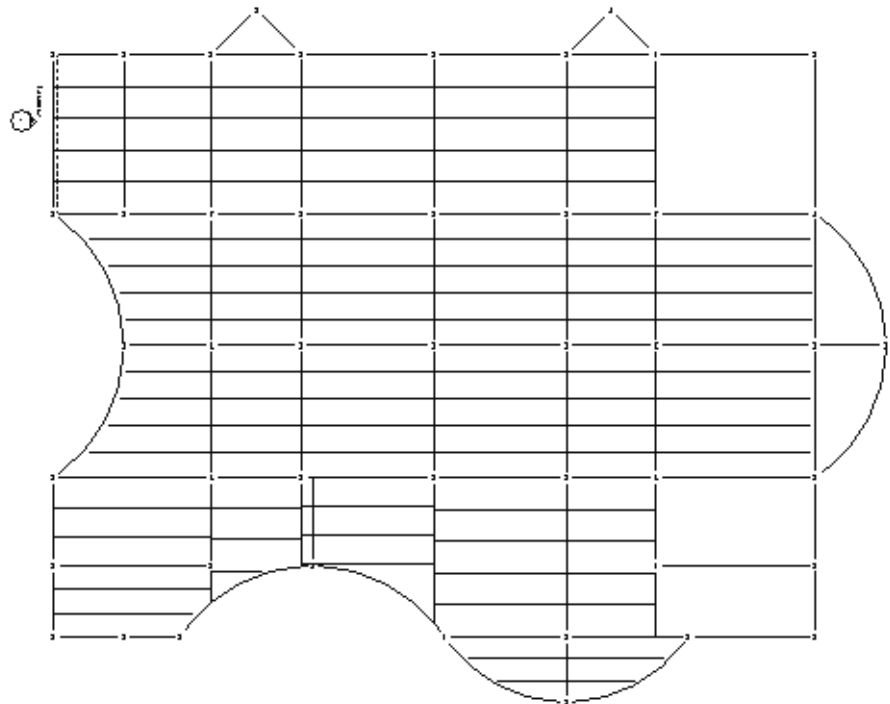

Figure 7–56
6. Use  (Automatic Beam System) to fill in as many bays as possible, as shown in Figure 7–56.